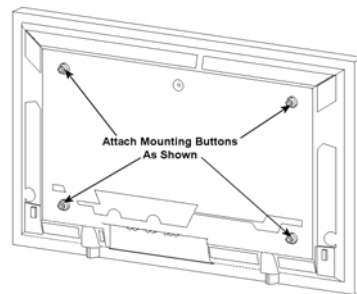

Figure 4
4. With the aid of another person, lift the display up to the mount. Align the mounting buttons on the display with the teardrop slots on the mount and set the display into place (Figure 4).